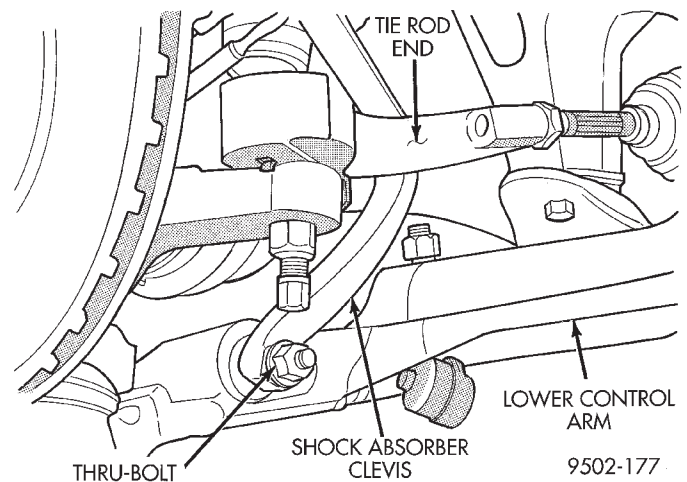

Fig. 32 Clevis To Lower Control Arm Attachment
(7) Remove the shock absorber clevis to lower control arm bushing, nut and thru-bolt. Separate the clevis from lower control arm (Fig. 32).
(9) Install the clevis on the lower control arm. Loosely install the clevis to bushing thru-bolt (Fig. 32).
(11) **With the vehicle's suspension at curb height**, tighten the clevis to lower control arm bushing thru-bolt nut (Fig. 32) to a torque of 88 N·m (65 ft. lbs.).